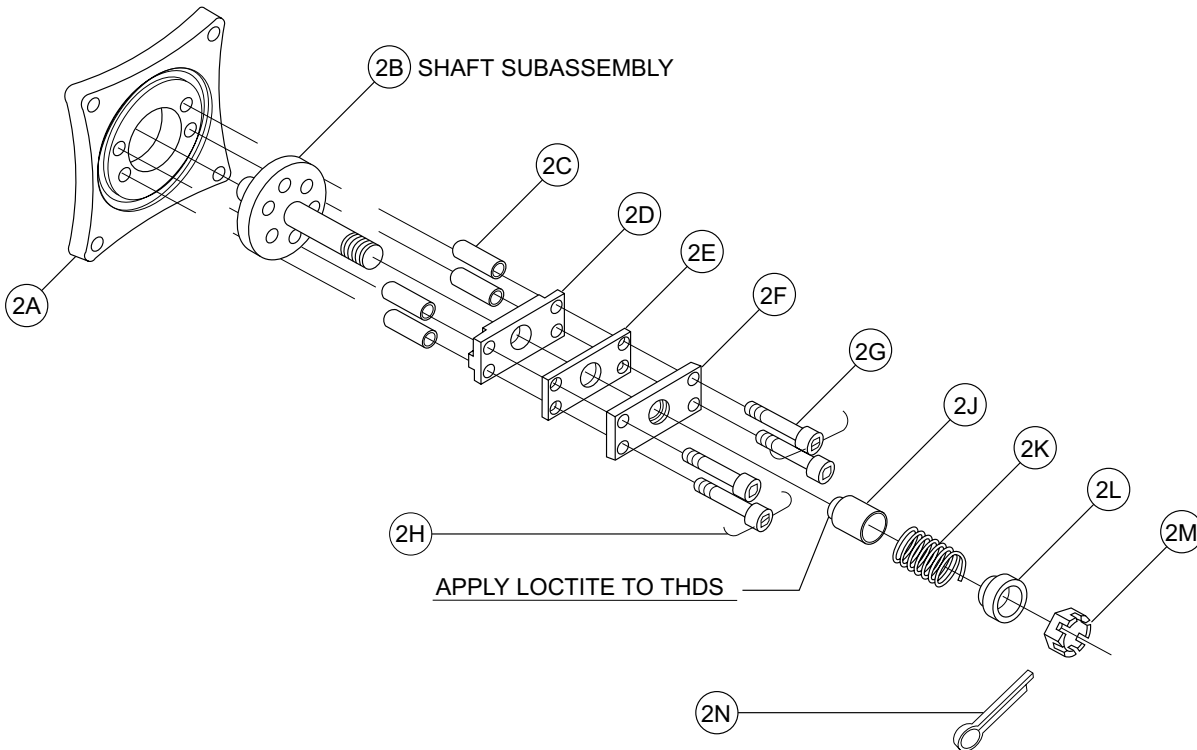

Figure 4.15
1. Disassemble/Build the actuator subassembly in the order shown by the Actuator Subassembly Diagram (Figure 4.15).